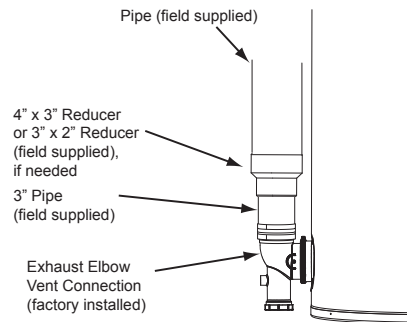

Figure 17. Vent (Exhaust) Connection
11. If installing two- or four-inch pipe, transition to three-inch pipe at the exhaust elbow on the water heater as shown in *Figure 17* (page 28). The field-installed three-inch pipe between the exhaust elbow and the reducer coupling should be 18 inches (45 cm) or less in length.
12. If installing two- or four-inch vent pipe, transition to three-inch pipe at the exhaust elbow on the water heater as shown in *Figure 17* (page 28). The field-installed three-inch pipe between the exhaust elbow and the reducer coupling should be 18 inches (45 cm) or less in length.